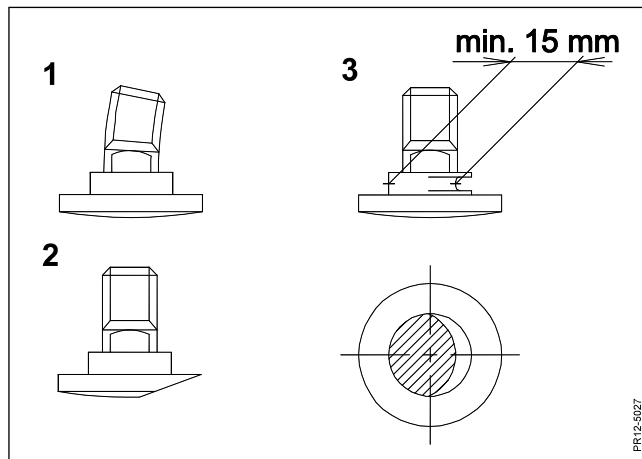

Fig. 5-4
- Fig. 5-4** Blade bolts must be replaced if: